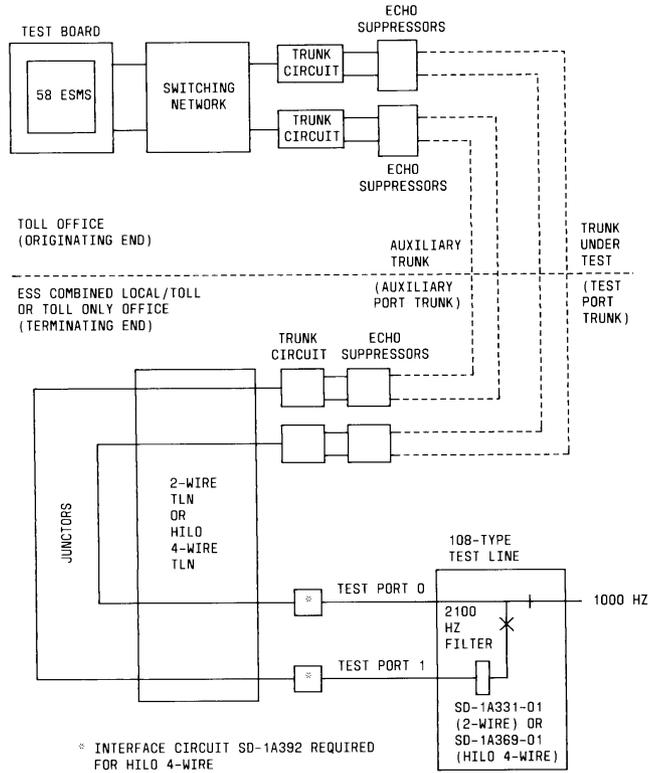

Fig. 1—Functional Arrangement of the 108TL Feature
**3.02** The functional arrangement of the 108TL feature is shown in Fig. 1. No maintenance personnel actions (except routine equipment maintenance of 108-type test line(s)) are required in a No. 1 or No. 1A ESS office containing the 108TL feature (terminating end).
4.11 The system then abandons the applicable receiver connection and connects the TUT to the only applicable TNN. Refer to Fig. 1. The